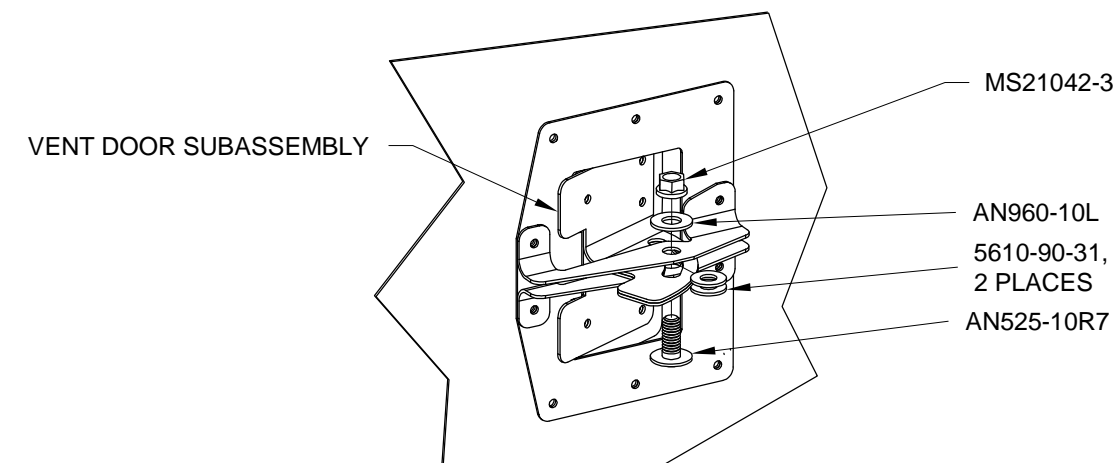

FIGURE 5: INSTALLING THE VENT DOOR SUBASSEMBLY
Step 9: Insert the Vent Door Subassembly as shown in Figure 5. Install the hardware through the F-1086A and B Vent Brackets and the slot in the vent door subassembly as shown in Figure 5 (place a 5610-18-31 Nylon Washer in between the F-1086A and F-1086B Vent Brackets). Repeat this step for the right side of the aircraft.